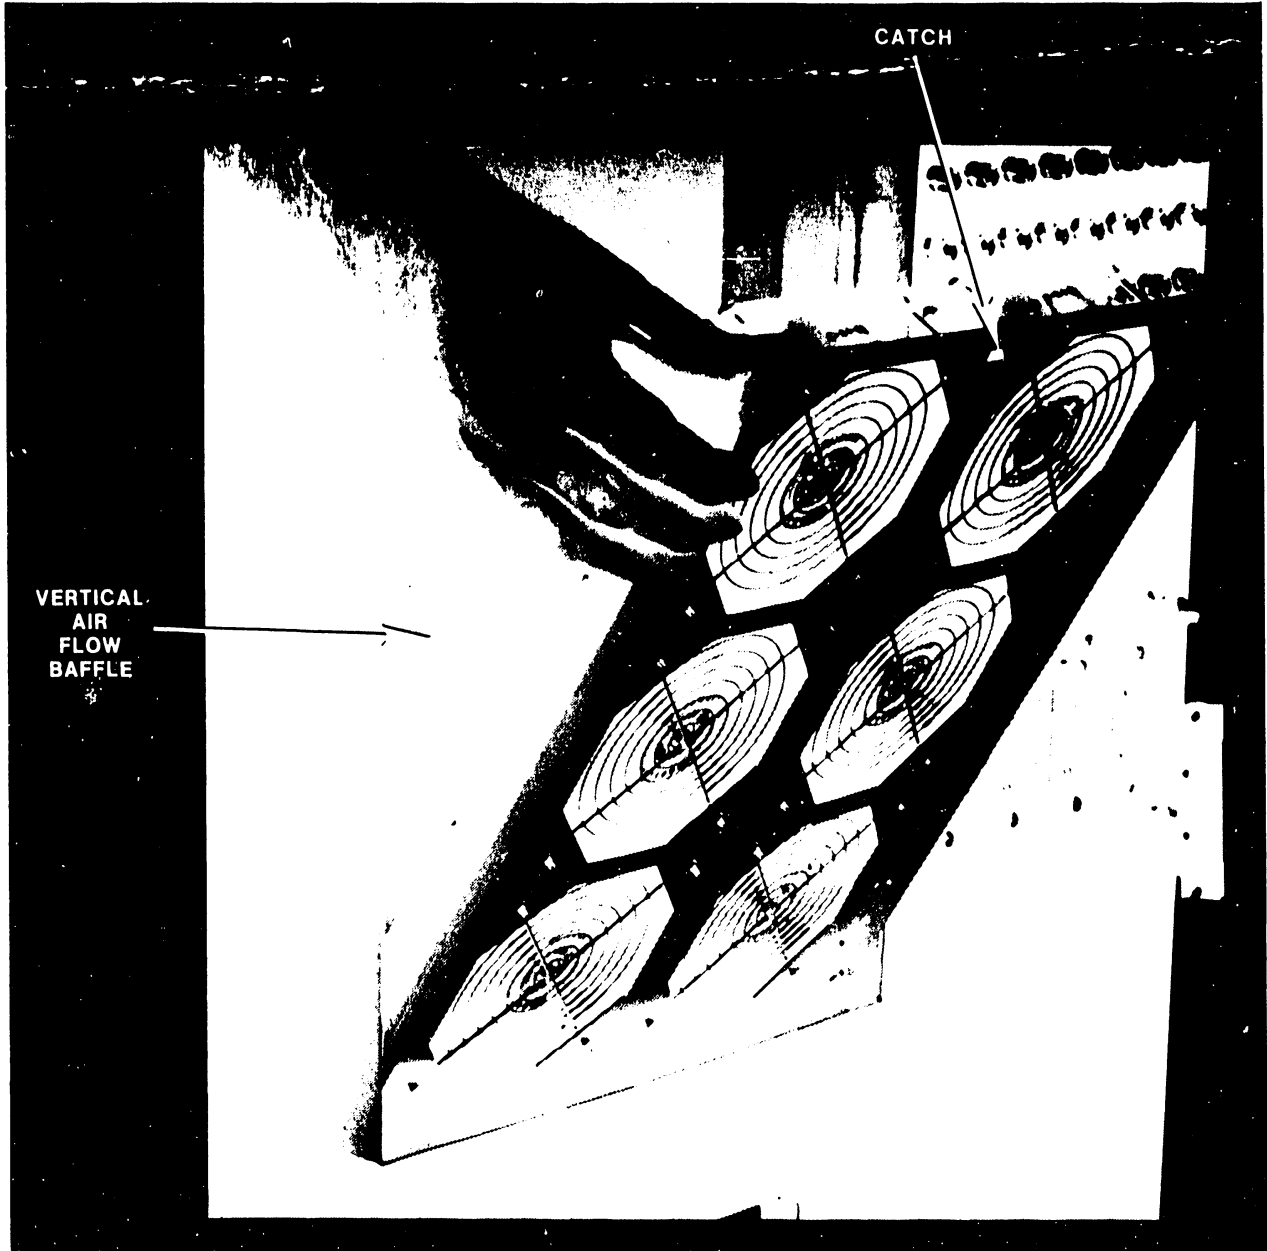

Figure 5-41. Lowering Fan Assembly
3. Grasp the catch inside the top of the panel and pull the top out. Lower the panel down to the horizontal position. (Figure 5-41.)